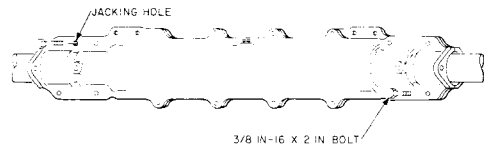

Fig. 25—Splice Case With Bolts in Jacking Holes
**5.03** Insert four mounting bolts in the jacking holes provided near the ends of each case for that purpose. Tighten alternately about two turns on each bolt until one or both cases are free from the cable (Fig. 25). **Place a temporary bond across the splice** between the inner clamps.